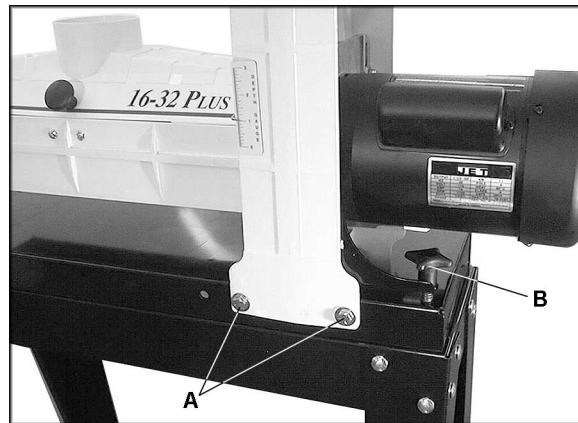

Figure 27
3. If a ridge is visible where the drum overlaps, loosen the four screws (A, Figure 27) and raise the outboard end of drum by turning the fine tune adjustment knob (B, Figure 27) slightly clockwise. Re-tighten the four screws.
NOTE: Keep track of how many revolutions of the fine tune knob are needed to change drum alignment for wider (over 16") sanding. When sanding narrow stock (less than 16") loosen the four screws (A, Figure 27) and turn fine tune adjustment knob counterclockwise same amount as initial wide sanding until drum is again parallel.
Important: Only turn fine tune adjustment knob when all four screws (A, Figure 27) are loose.